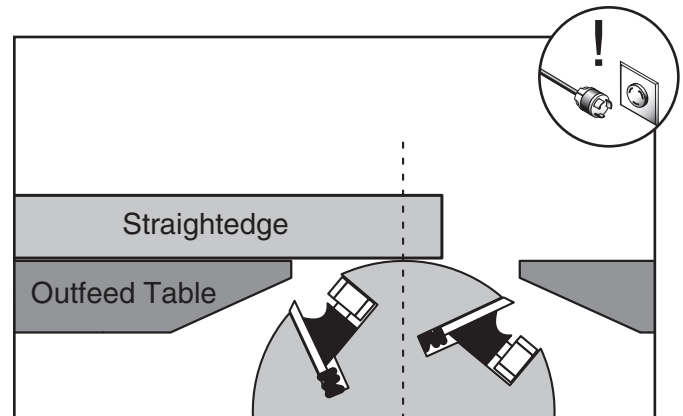

Figure 48. Adjusting outfeed table even with cutterhead body.
4. Place the straightedge on the outfeed table so it hangs over the cutterhead, and lower the outfeed table until the straightedge just touches the cutterhead body, as shown in **Figure 48** (rotate the cutterhead if necessary).
1. Place the straightedge on the outfeed table so it hangs over the cutterhead, and lower the outfeed table until the straightedge just touches the cutterhead body, as shown in **Figure 48** (rotate the cutterhead if necessary).